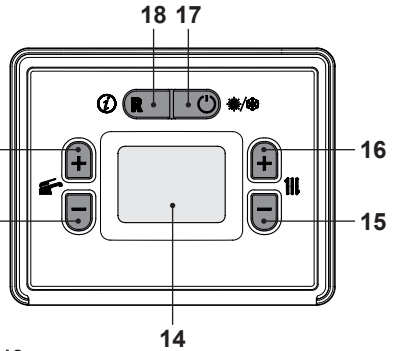

Fig. 7.12
- Press the 17 key until  symbol appear on the display Fig. 7.12.